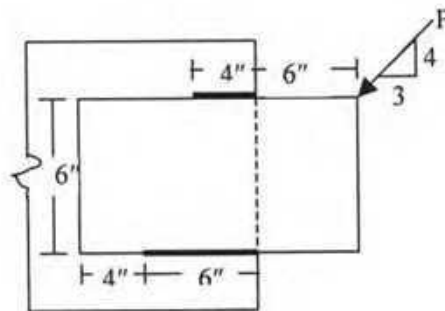

Fig. 11
Q12. A plate is lapped over and welded to a gusset plate as shown in Fig.11. What maximum value of P can be applied as shown if $5/16$ -in. fillet welds are used using allowable $\tau = 21 \text{ ksi}$ through the throats. (10)